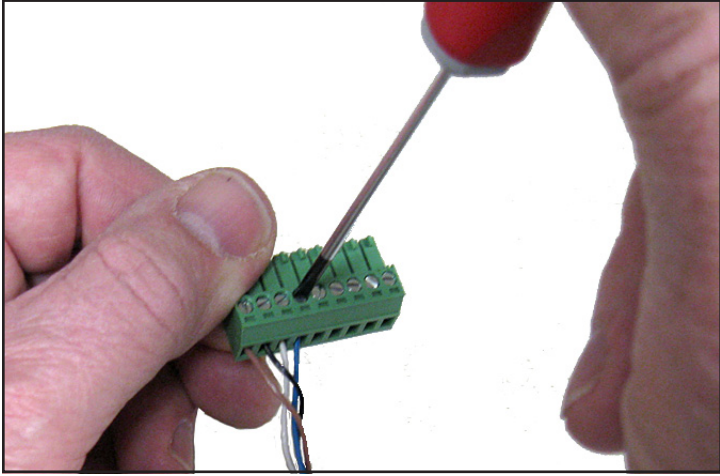

Figure 28: Wiring the Cable to the Connector
- 3. Refer to Table 1 below and Figure 28 on page 26 to connect the end of the probe cable with the four leads to pins 10, 11, 12 and 13 on the lower terminal block.